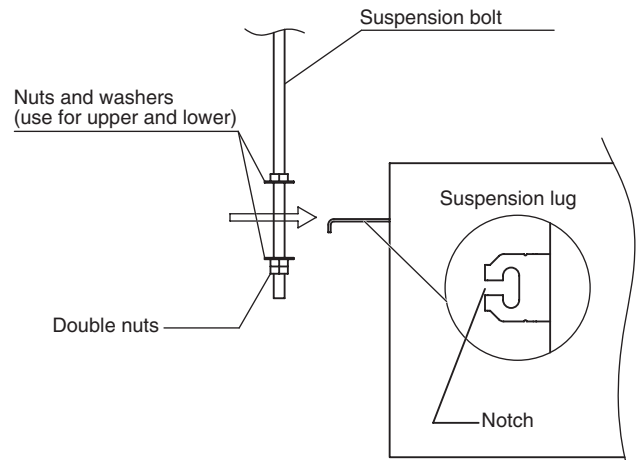

Fig. 1-36
- (3) Thread the 3 hexagonal nuts and 2 washers (field supply) onto each of the 4 suspension bolts (Figs. 1-36 and 1-37). Use 1 nut and 1 washer for the upper part, and 2 nuts and 1 washer for the lower part, so that the unit will not fall off the suspension lugs.